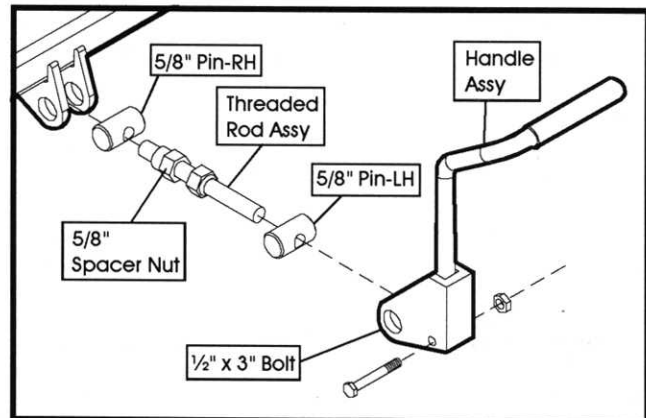

FIGURE 13
1. Refer to Figure 13. Open cleanout mechanism.